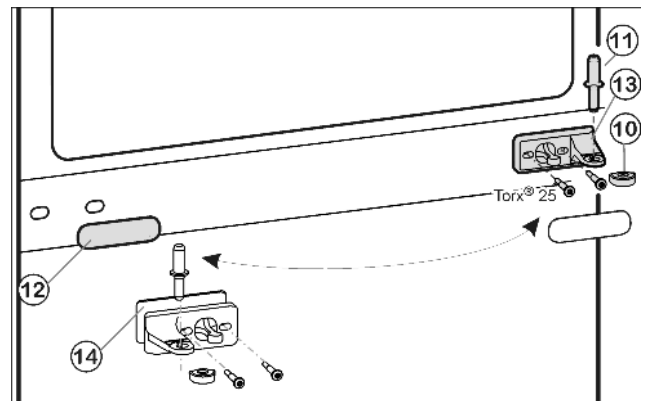
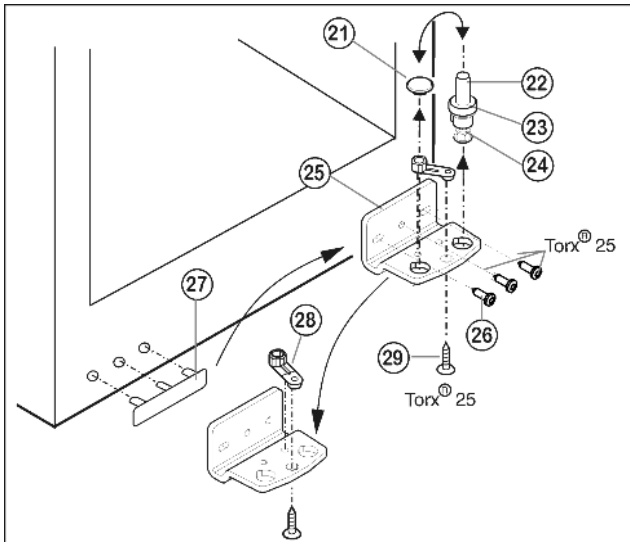

Fig. 5
Fig. 6
- ▶ Draw the middle bearing pin Fig. 5 (11) out of the turn hinge and lower door.
- ▶ Remove the plastic cap Fig. 5 (10).
- ▶ Unscrew the middle turn hinge (2x Torx® 25). Fig. 5 (13)
- ▶ Carefully detach the cover panel Fig. 5 (12).
- ▶ Turn the middle turn hinge Fig. 5 (13) with the washer Fig. 5 (14) through 180° and screw it firmly into place on the new hinge side (**with 4 Nm**).
- ▶ Turn the cover panel Fig. 5 (12) through 180° and snap it into place again on the new handle side.
- ▶ Lift out the bearing pin Fig. 6 (22) together with washer Fig. 6 (23) and foot Fig. 6 (24).
- ▶ Lift off the stopper Fig. 6 (21).
- ▶ Unscrew Fig. 6 (26) the turn hinge Fig. 6 (25).
- ▶ Unscrew Fig. 6 (29) the bearing element Fig. 6 (28), transfer it to the opposite location hole of the turn hinge and screw it firmly into place.
- ▶ Carefully lift off the cover on the handle side Fig. 6 (27) and transfer it to the opposite side.
- ▶ Screw the turn hinge Fig. 6 (25) firmly into place on the new hinge side, possibly using a cordless screwdriver (with 4 Nm).
- ▶ Re-insert the stopper Fig. 6 (21) into the other hole.
- ▶ Re-insert the bearing pin Fig. 6 (22) together with washer and foot. In so doing, pay attention that the locating lug points backwards
- ▶ Place the lower door from above onto the lower bearing pin Fig. 6 (22).
- ▶ Place the plastic cap Fig. 5 (10) back onto the middle turn hinge Fig. 5 (13).
- ▶ Place the middle bearing pin Fig. 5 (11) in the lower door, on the new hinge side, through the middle turn hinge Fig. 5 (13).
- ▶ Place the upper door on the middle bearing pin Fig. 5 (11).
- ▶ If necessary, align the doors to the appliance housing by way of the two oblong holes in the bottom turn hinge Fig. 6 (25) and middle turn hinge Fig. 5 (13). To do so, unscrew the middle screw in the bottom turn hinge Fig. 6 (25).